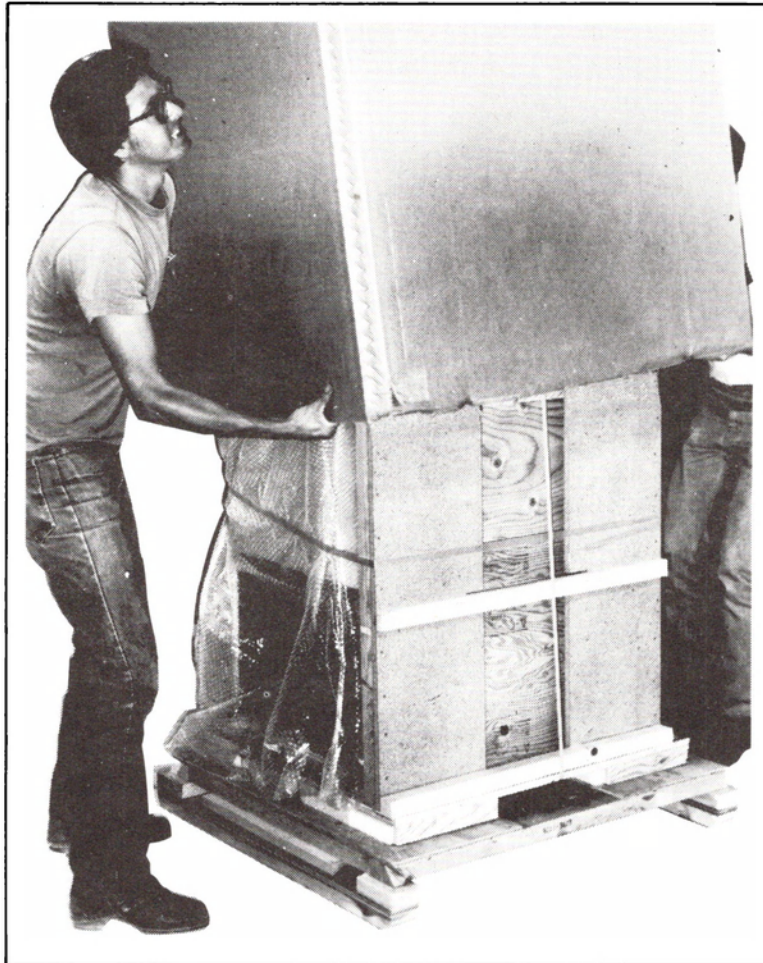

Figure 2-1. Removing The Cardboard Top
1. Remove the cardboard top of the shipping crate as shown in Figure 2-1.